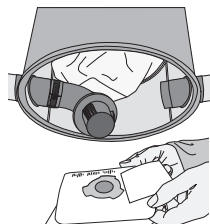

figure 10
2. Remove the used bag (**figure 10**). If it has been used, seal its opening with the self-adhesive flap on the bag collar (see instructions on the bag). Discard the used bag. If the bag was not utilized, you may wish to store it for later use.